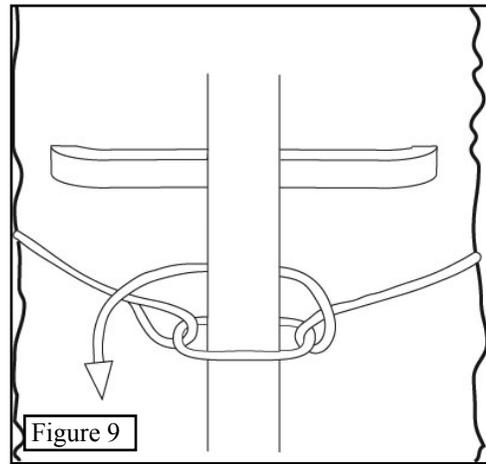

Figure 9
**Step 5.** Bring the rope back around to the other side and loop it around the pre attached rope end (See **Figure 9**.) Wrap the rope around itself several times so that the two sections of rope are pulled together tightly.